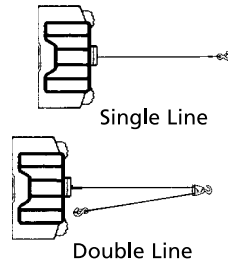

Figure 2
1. Maximum working load capacity is on the wire rope layer closest to the drum. DO NOT OVERLOAD. DO NOT ATTEMPT PROLONGED PULLS AT HEAVY LOADS. Overloads can damage the winch and/or the wire rope and create unsafe operating conditions. FOR LOADS OVER 1/2 RATED CAPACITY, WE RECOMMEND THE USE OF THE OPTIONAL PULLEY BLOCK TO DOUBLE LINE THE WIRE ROPE (Figure2). This reduces the load on the winch and the strain on the wire rope by approximately 50%. Attach hook to load bearing part. **The vehicle engine should be running during winch operation.** If considerable winching is performed with the engine off, the battery may be too weak to restart the engine.